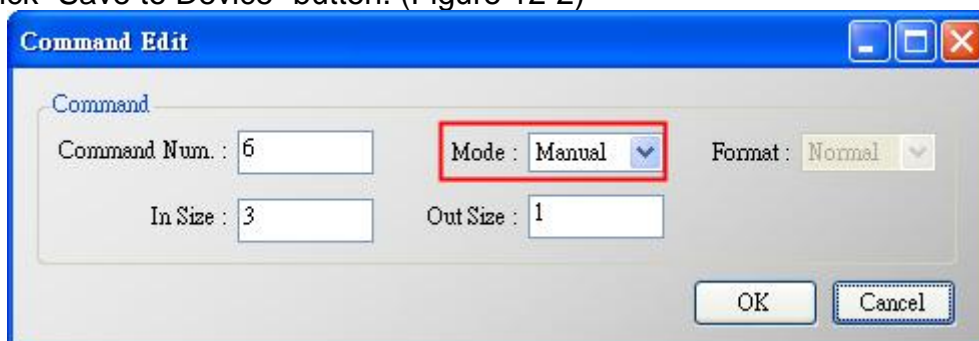

Figure 12-1 Add UserCMD(6)
- (1) Run "HG\_Tool" and connect to HRT-710.
- (2) Open the "**Device Configuration**" page.
- (3) Add "UserCMD(6)" and choose "Manual" option in "Mode" field. (Figure 12-1)